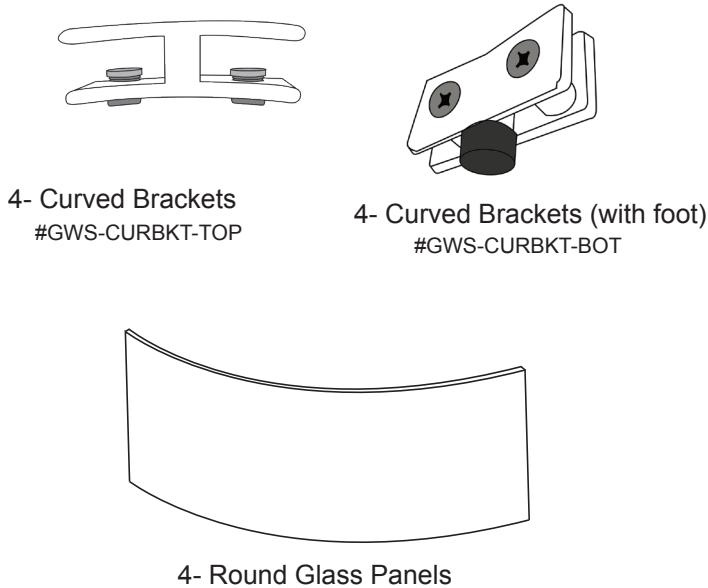

Fig. 6 Shows carton glass panels and rectangular windshield brackets.
STEP 1: Begin working from the bottom up by connecting two glass panels using the straight brackets and (with foot) and ensure the “CAUTION-HOT” sign is showing on at least one panel, facing outward. Each glass panel should slide all the way into the bracket and top edge should be flush with edge of glass. See Fig. 6.